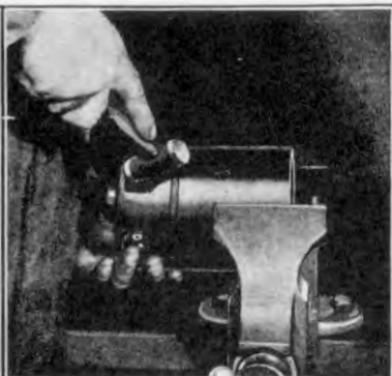

Fig. 458
- Run out the four brush end bracket to yoke screws "B". The bracket can then be removed from generator yoke by tapping bracket with a copper hammer as shown in Fig. 458.